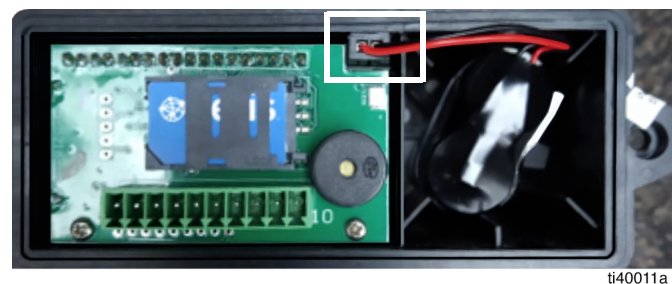

FIG. 9 Disconnect Battery
3. Disconnect the battery pack from the circuit board (FIG. 9).
6. Reconnect the battery pack to the circuit board (see FIG. 9).